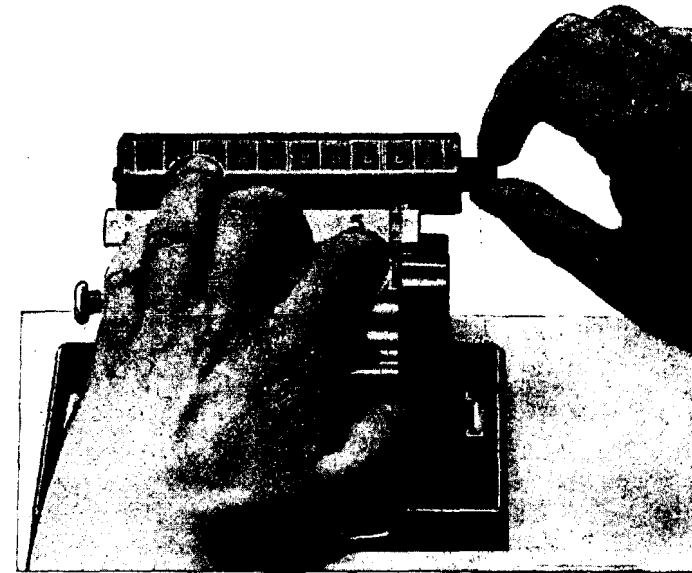

Figure 195
Figure 195 shows the resetting to zero of the calculating mechanism. The adding machine Kollektor subtracts in exactly the same way as it adds. All that is required is to pull out knob (10). Any changes to the total are as possible during subtraction as they were for addition. The whole machine is really one of the simplest imaginable, on account of the small number of movable parts. In spite of its handiness and the small size, the good materials which make up the machine guarantee unlimited durability.